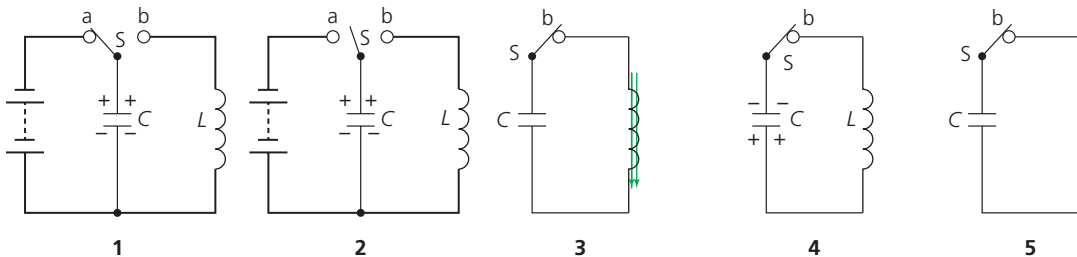

Figure 16 Operation of an LC circuit
The operation of an LC circuit is shown in Figure 16 and described below.
- ▶ The LC circuit in part 4 of Figure 16, with energy stored only in the capacitor as electrostatic potential energy, is analogous to a stretched spring at its maximum displacement (Figure 17a). Energy is stored here as elastic potential energy in the spring, and the mass is stationary.
- ▶ The LC circuit in part 5 of Figure 16, with energy stored entirely in the magnetic field of the inductor, is analogous to the spring being at its equilibrium length (Figure 17b). The mass moves with maximum velocity and all the energy is in the form of its kinetic energy.